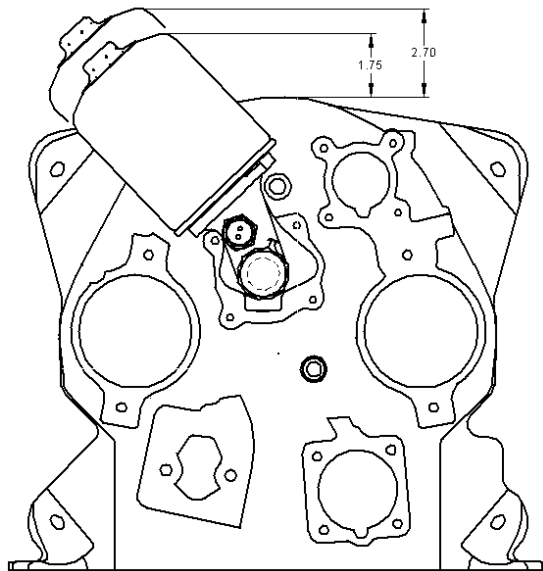
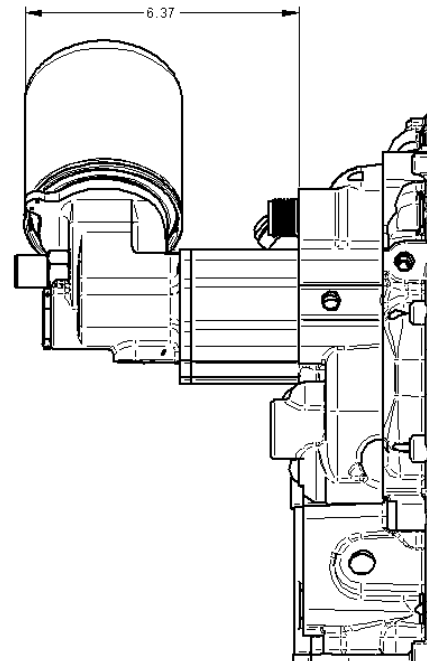

Figure 3: Filter Vertical Clearance Requirement
Figure 4: Filter Horizontal Clearance Requirement
- 6.3.1 If the assembly does not have sufficient clearance, contact ECi customer service for assistance in ordering the correct kit (see Figure 3 and Figure 4).